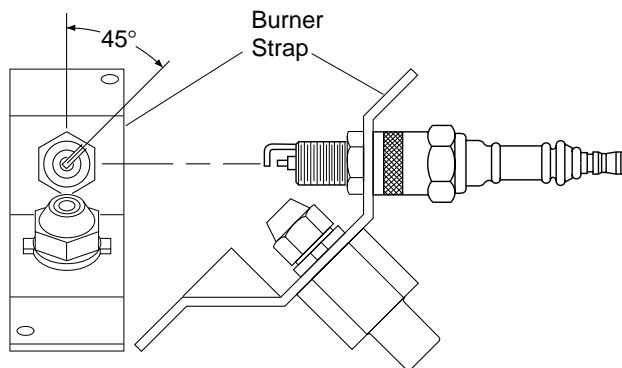

Figure 12- Spark Plug Rotation
10. Replace burner strap onto spark plug. Rotate burner strap to position spark plug electrodes (see Figure 12, page 11).